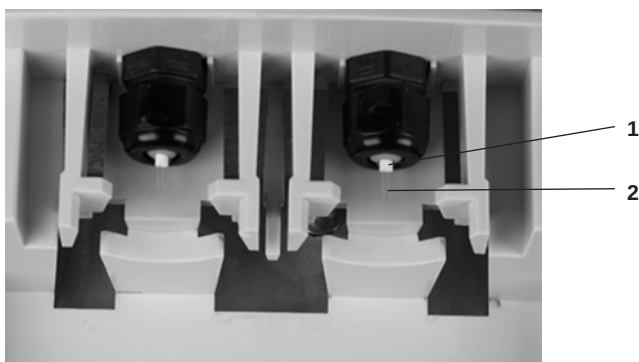

Fig. 11.7. Fraction outlet valves. 1, White support tubing; 2, clear outlet tubing.
2. Locate the bottom section of tubing that is connected to each fraction outlet valve (Figure 11.7).